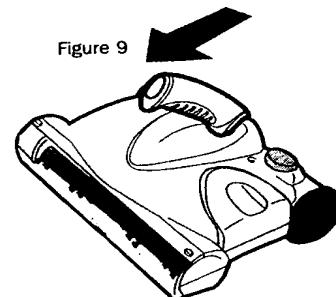

Figure 9
2. Fold forward the lower handle (fig.9).